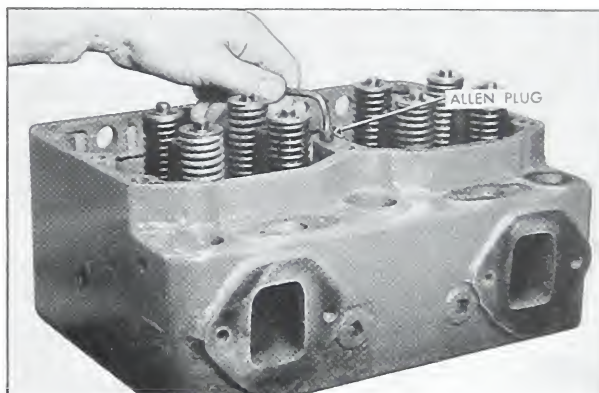

Fig. 12-1. Breather hole in cylinder head
2. Make sure that H and NH cylinder heads have the top breather hole open. HS, NHS and NHR heads must have the breather hole plugged with a $\frac{1}{8}$ " Allen pipe plug. The breather hole is located at the top of the cylinder head and between the center stud holes. Fig. 12-1.